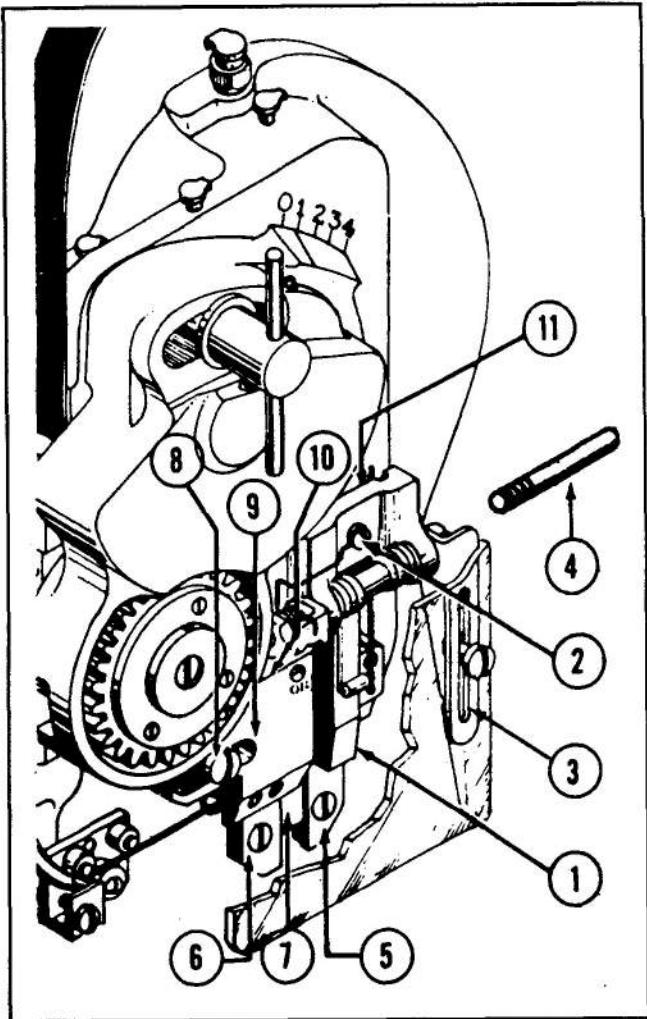

Figure 19 — Removing and Replacing
e. GRIPPER (See Fig. 19)—Check for excessive wear at edges of gripper bar (1) anvil (surface upon which staples are formed), usually evidenced by rounded corners on formed staple.
4—When reinstalling gripper assembly in head, be sure that upper stud (153), Fig. 23, in gripper bar clamp piece engages in slot in gripper clamp piece control slide, (167), Fig. 23; then replace and tighten gripper pivot screw, (4), Fig. 19.
f. FORMERS AND DRIVER (See Fig. 19)—Check for wear in grooves of formers (5) and (6), usually evidenced by buckled staple legs. The formers supplied with Models BHM, BHMB and BHML are double-ended, thereby permitting these formers to be reversed when one end is worn.